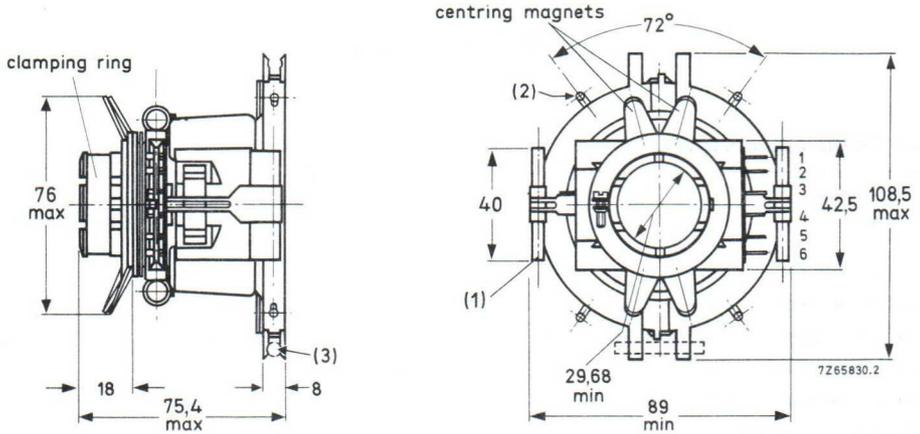

Fig. 1 Deflection unit AT1040/15.
To correct the corners of the raster plastic bonded Ferroxdure magnets can be fitted to the deflection unit, (2), Fig. 1.
To optimize the raster geometry plastic bonded Ferroxdure magnet rods can be fitted to the deflection unit, (3), Fig. 1.
The unit is provided with solder pins for connection. The pin numbering in Fig. 1 corresponds to that in the connection diagrams (Fig. 2).